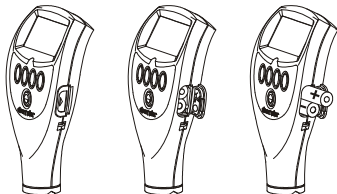

Figure 2. Fitting batteries - ensure correct battery polarity
2. Insert 2 x LR03 (AAA), alkaline dry batteries taking care to ensure correct battery polarity (Figure 2).